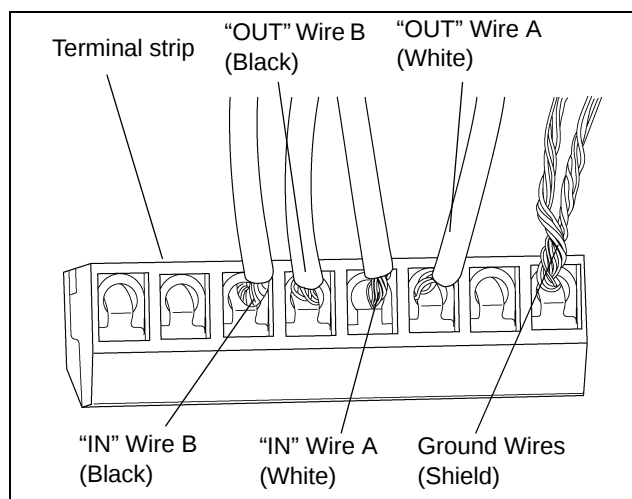

Figure 7E Terminal strip in place with wires connected.
- d. Attach the wires to the terminal strip by sliding wires down through top of terminal and tightening the lugs. (See Figure 7E.)